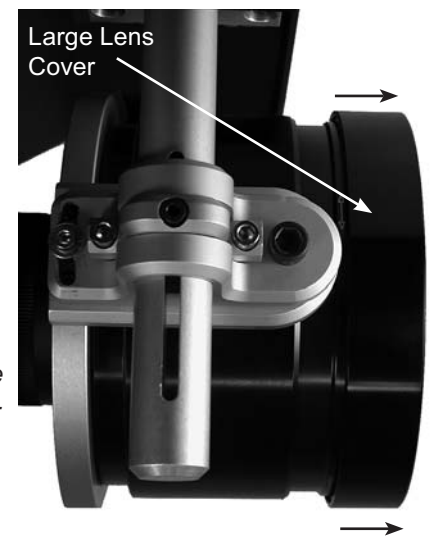

Figure 27
7. Remove the large Lens Cover from the front of the Lens by grasping both sides of the cover and pulling straight forward. Refer to figure 27.